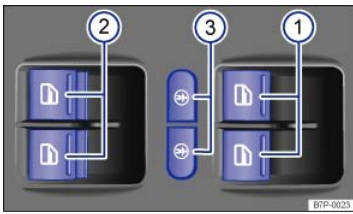

Fig. 29 In driver door: Safety control switches for front and rear power windows.
Key to ⇒ Fig. 29 :
ⓘ	The electric child safety switch (left/right) ⇒ Fig. 29③ deactivate the driver side and passenger side power windows in the rear doors. The yellow indicator light in the switch lights up when activated. The electric child safety locks also prevent the rear doors from being opened from the inside.